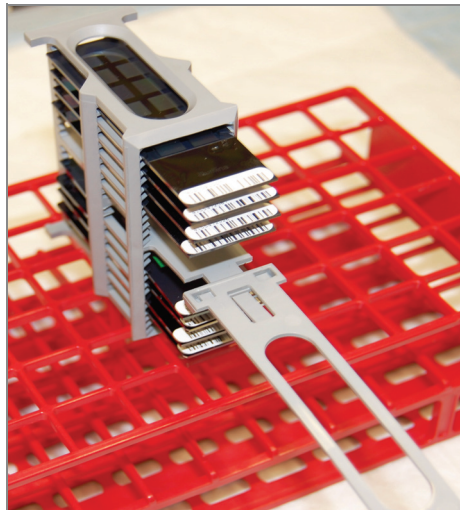

Figure 185 Staining Rack in Correct Orientation
17. Remove the staining rack in one smooth, rapid motion and place it directly on the prepared tube rack, making sure the barcodes **face upwards** and the locking arms and tab **face down** (Figure 185).